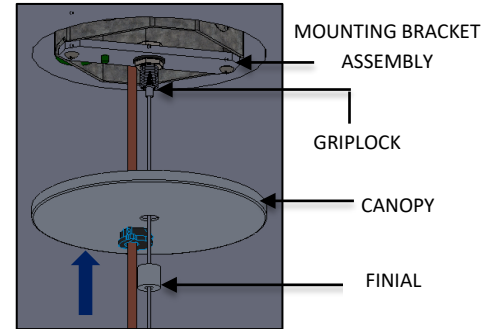

FIG. 26 - FINIAL INSTALLATION
14. Raise CANOPY and secure to ceiling by threading the FINIAL to the GRIPLOCK until fully seated as shown in FIG. 26.